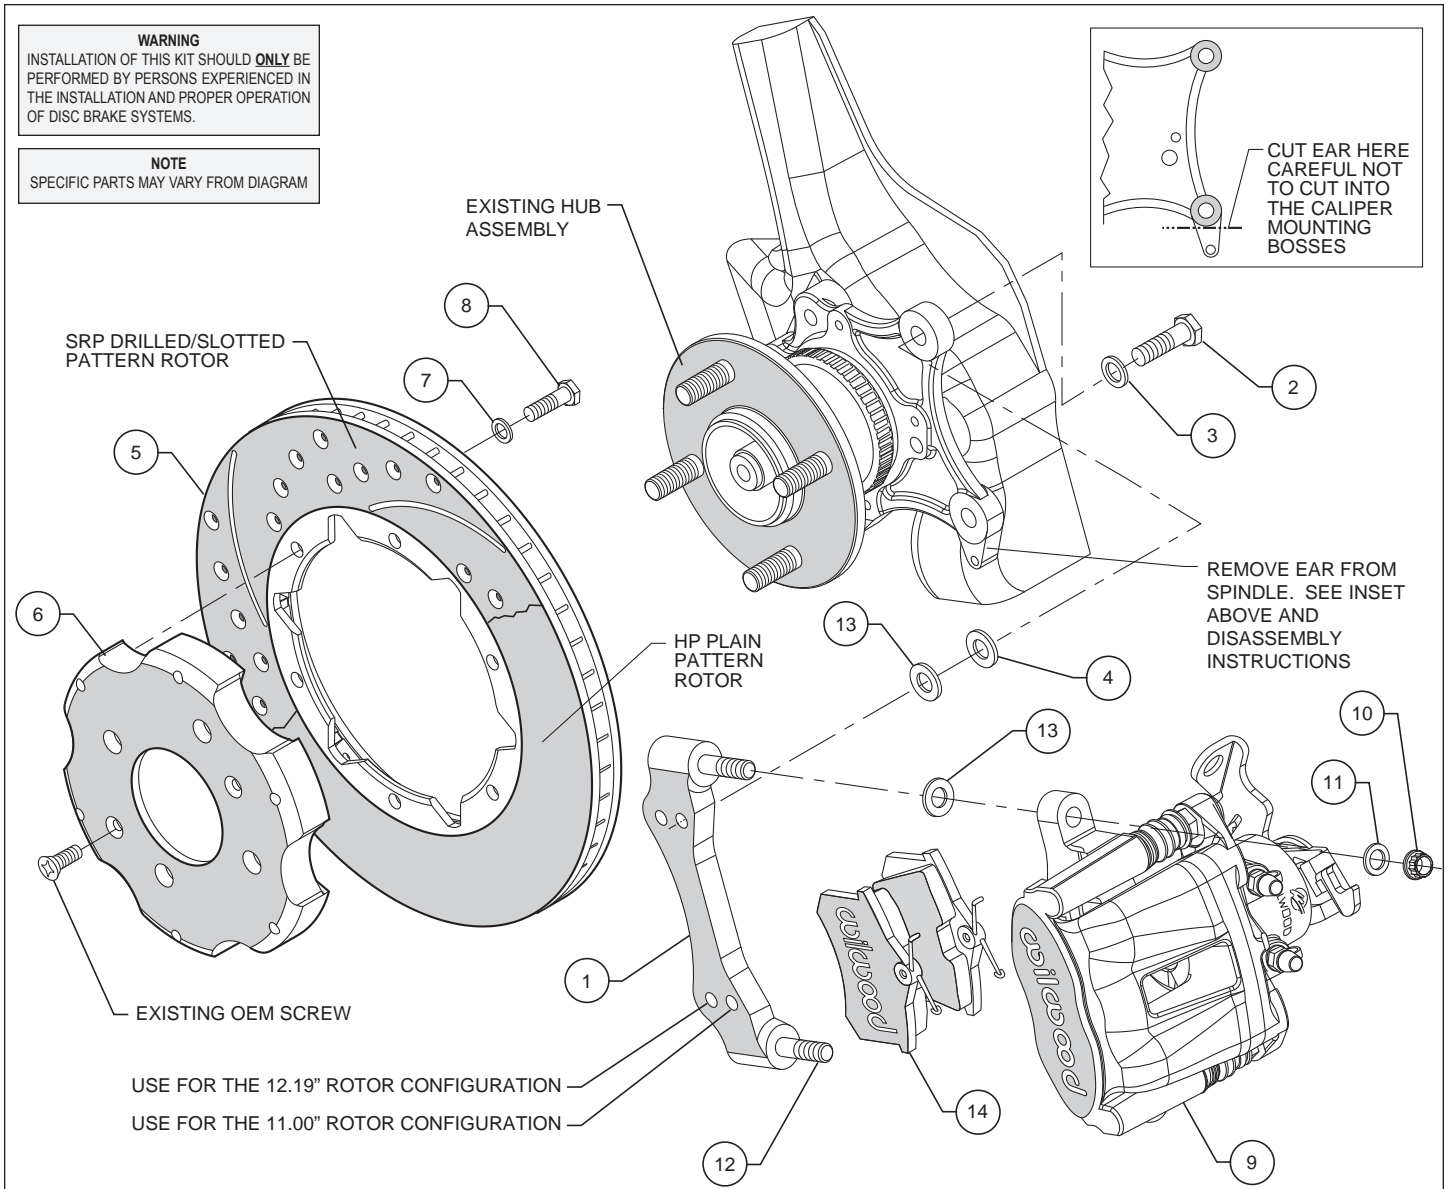
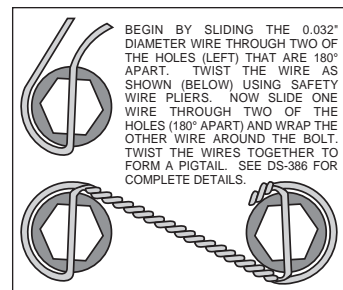

Figure 1. Typical Installation Configuration
Figure 3. Safety Wire Diagram
• **NOTE:** This modification should be performed and completed before assembly of the Wilwood disc brake kit begins. To properly install the Wilwood caliper bracket, the small mounting ear located by the lower caliper mounting boss must be removed by cutting or grinding as shown in Figure 1 and Photo 2. Remove only enough material to allow flush mounting of the Wilwood bracket to the upright.
• The caliper mounting bracket (1) should be installed first with clean, dry threads on the mounting bolts. Attach the caliper mounting bracket on the outboard side of the upright using bolts (2), washers (3), while placing a .016 inch shim (4) and a .035 inch shim (13) between the caliper mounting bracket and the upright, see Figure 1 and Photo 4. Use two shims between the mounting bracket and the upright during initial trial fitting, see Photo 5. Temporarily tighten the mounting bolts. Inspect for interference from casting irregularities, machining ridges, burrs, etc. **NOTE:** The bracket must fit squarely against the mount bosses on the upright.
• Orient the rotor (5) and hat (6) as shown in Figure 1 and Photo 6. Attach the rotor to the hat using bolts (8) and washers (7). Using an alternating sequence, apply red *Loctite*® 271 to the threads, and torque to 180 in-lbs. Safety wire the bolts using standard 0.032 inch diameter stainless steel safety wire as shown in Figure 3. Please refer to Wilwood's data sheet DS-386 (available at [www.wilwood.com/Pdf/DataSheets/ds386.pdf](http://www.wilwood.com/Pdf/DataSheets/ds386.pdf)) for complete safety wire installation instructions.
- Lubricate the caliper mounting studs with lightweight oil. Install two .035 inch shims (13) on each stud (12), on the radial mount bracket (1). Slide on the caliper (9) and temporarily tighten the washer (11) and lock nut (10), see Figure 1 and Photo 8. The caliper bleed screw should be pointing toward the rear of the vehicle. View the rotor (5) through the top opening of the caliper, the rotor should be centered in the caliper, see Photo 9. If not, adjust by adding or subtracting .016" shims (4) and/or .035" shims (13) as necessary between the caliper mounting bracket and the axle hub to center the caliper on the rotor.